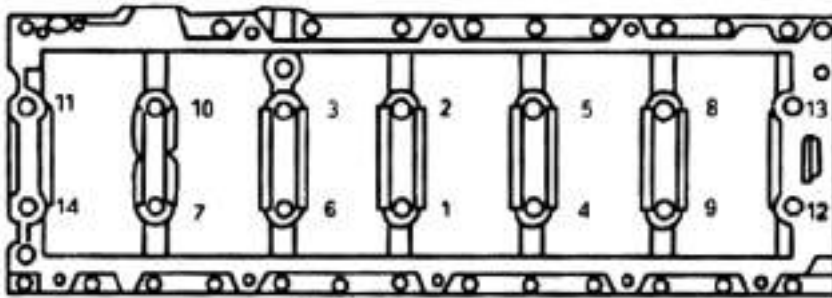

Fig.4 Tightening Order of Main Bearing Bolt
- b. Tighten through bolt to  $200+10 \text{ N}\cdot\text{m}$  in the order shown in fig.4;
- d. Tighten through bolt in the order shown in fig.4, and then turn the nuts to 900;
- f. Tighten through bolt in the order shown in fig.4, and then turn the bolts to 900;
It is made of high-strength gray pig iron. Being divided into two parts, the upper cylinder block is block and the lower is crankshaft case. Since there is no any gasket between block and crankshaft case, clean the mating faces and supply with sealant (Loctite510) before connecting. Secure 14 main bearing bolts of M18 with given tightening torque when connecting, and then 25 inner hexogen bolts of M8. The tightening methods should follow the requirements shown in table 8 and fig.4. The high rigidity improves reliability and durability of cylinder block.